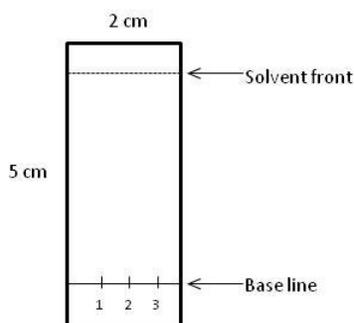

Figure 1.
5. *Demonstration.* Thin Layer Chromatography (Figure 1).